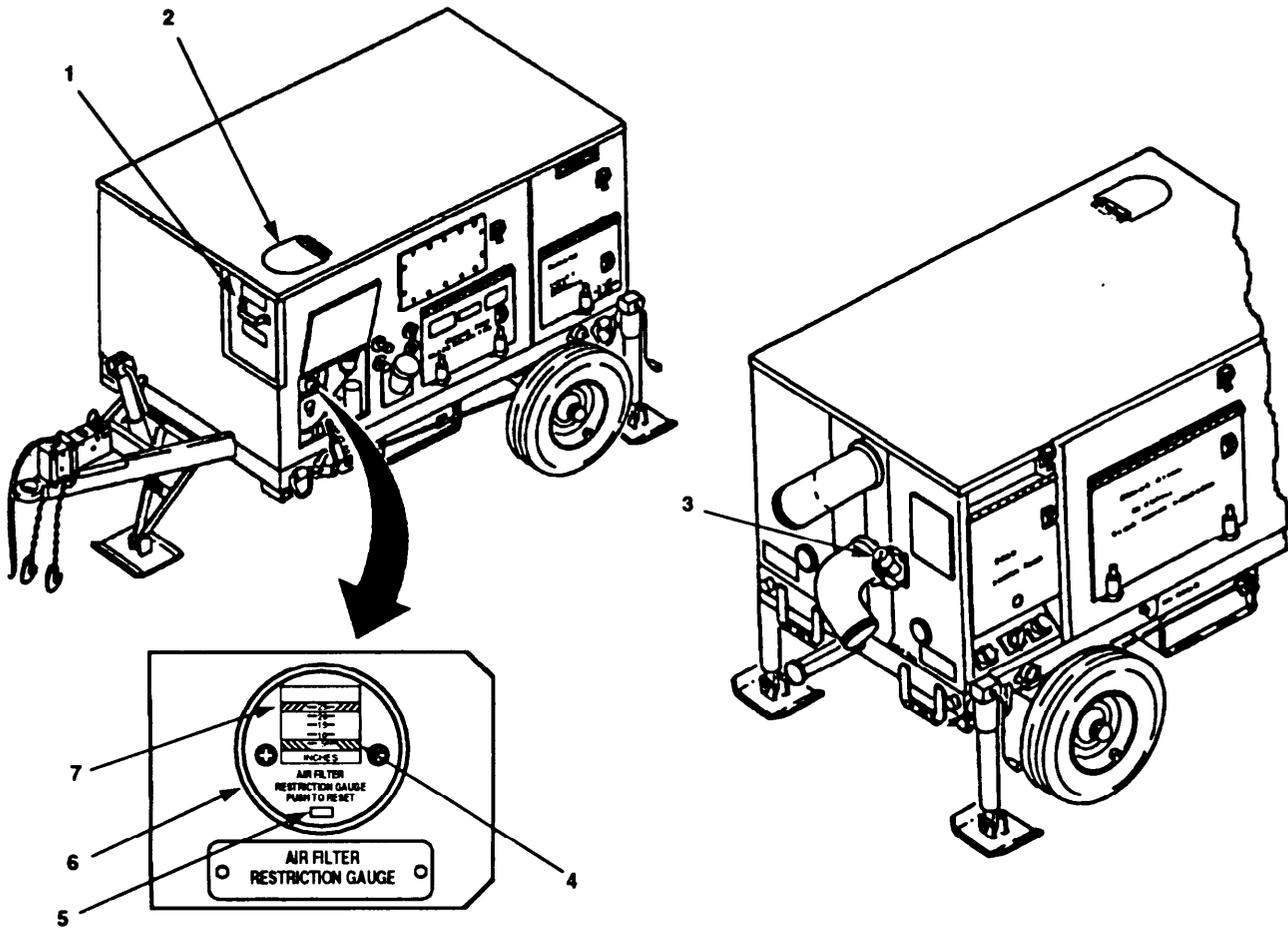

Figure 2-6. Model 609-C Air System and Priming Tube Controls and Indicators.
2.1.2.4 Air System and Priming Tube. Refer to Figure 2-6 and Table 2-6.